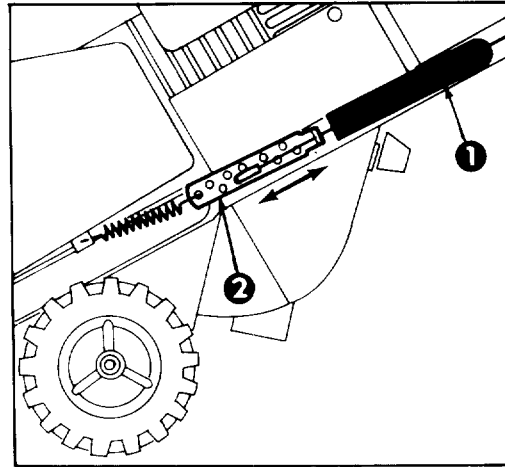

Figure 10
3. ADJUST CABLE-(Fig. 10) – Unhook upper cable end from hole in control bar bracket. Slide spring cover up cable to expose cable adjuster. Unhook cable end from cable adjuster and reposition in a higher or lower hole on adjuster as required to attain proper gap of 1/16-1/8". Reinstall upper cable end into rear hole (hole with arrow) in control bar bracket. Slide spring cover over cable adjuster and recheck adjustment.